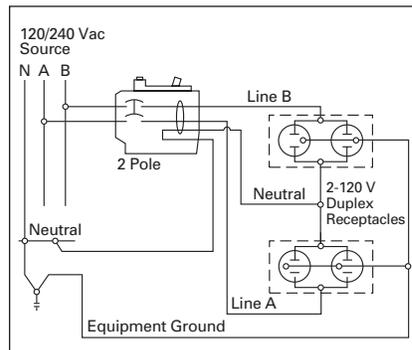

Figure 26.3-3. 1-Pole Shared Neutral with Multi-Duplex Receptacle Application
- ② Independent trip refers to 2-pole multi-wire, home run or shared neutral circuits (see Figure 26.3-3 and Figure 26.3-5).